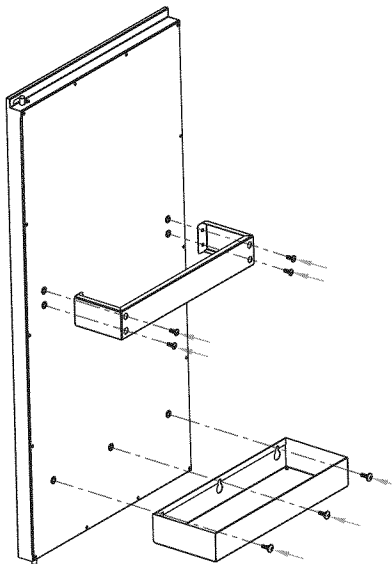
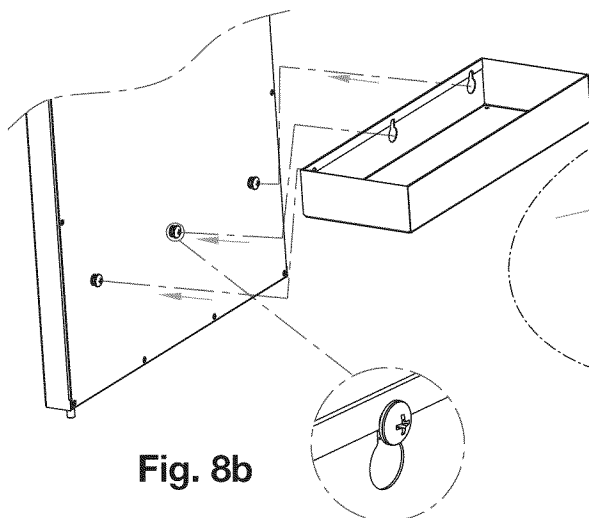

Fig. 8a
Fig. 8b
1. Attach toolbox bracket to back of right door with four (4) M4 x 10 screws as shown in **Fig. 8a**; then attach three (3) M4 x 12 screws to back of right door without fully inserting the screws and hang the toolbox onto the screws as shown in **Fig. 8b**.